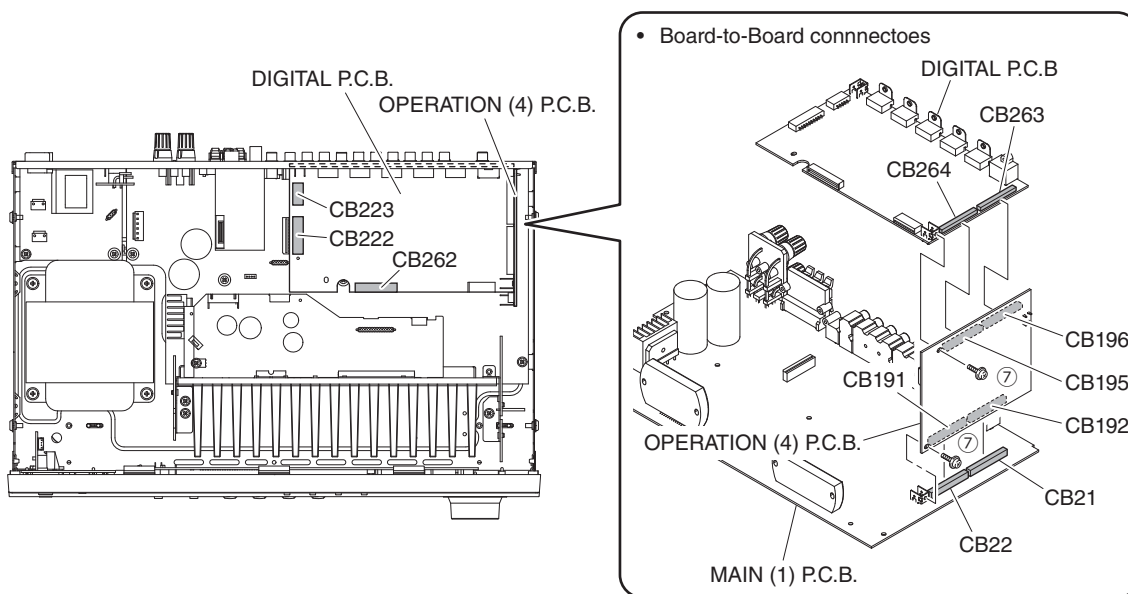

Fig. 2
- a. Remove CB222–223 and CB262. (Fig. 2)
- c. Remove the DIGITAL P.C.B. which is connected directly to the OPERATION (4) P.C.B. with board-to-board connectors. (Fig. 2)
4. Removal of OPERATION (4) P.C.B.
- a. Remove CB194. (Fig. 2)
- c. Remove the OPERATION (4) P.C.B. which is connected directly to the MAIN (1) P.C.B. with board-to-board connectors. (Fig. 2)